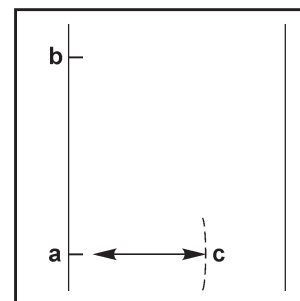

Figure 4
4. Measure 6 feet out towards the center of the lane from "a". Make an arc and mark it "c" (see Figure 4).